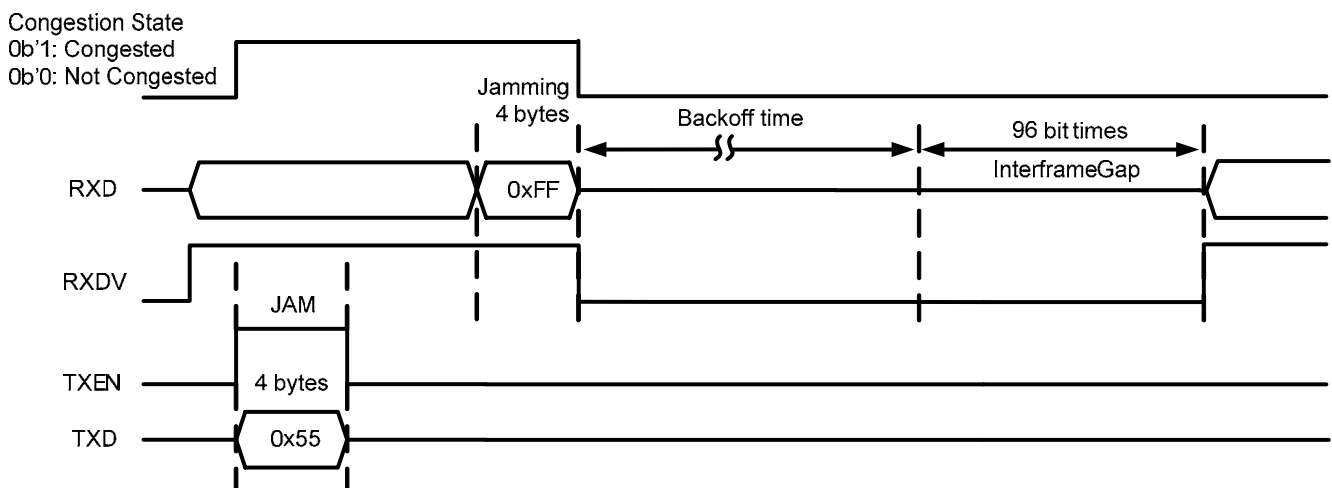

Figure 10. Collision-Based Backpressure Signal Timing
- The link partner waits for a random back-off time then re-sends the packet. The timing is shown in Figure 10.